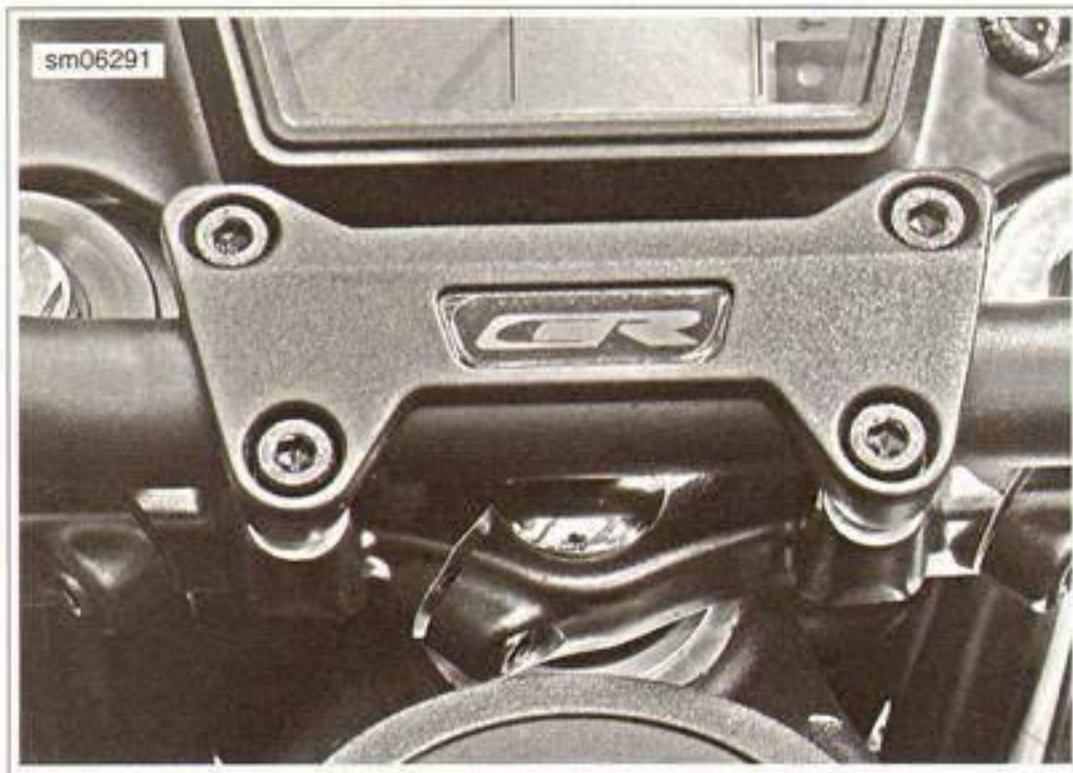

Figure 2-148. Handlebar Assembly: 1125CR
2. See Figure 2-148. To remove, remove the handlebar clamp fasteners and washers.